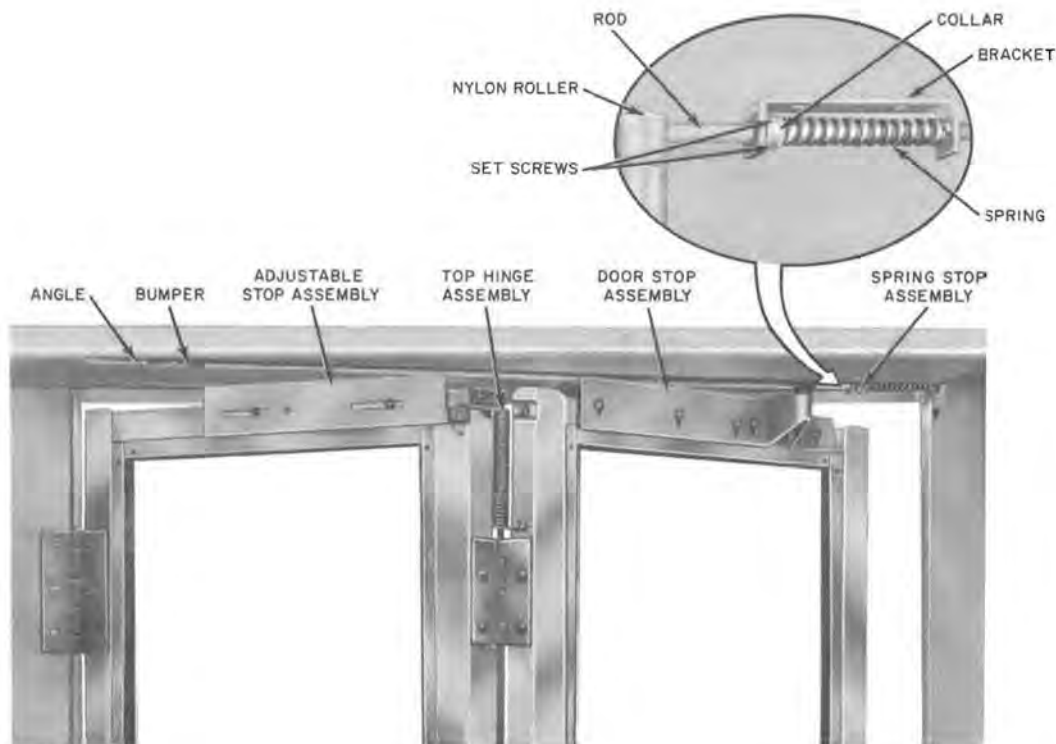

Fig. 24—KS-16797 Booth Door Adjustment
4.06 Door adjustments (Fig. 24) should be made in sequence as follows: